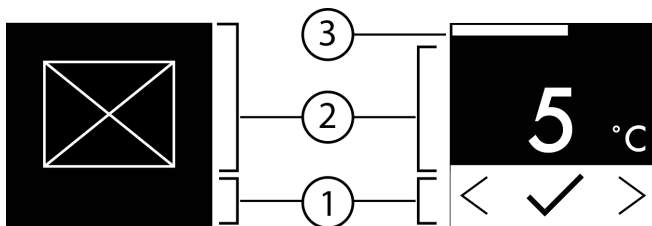

Fig. 6
- ▷ Status: On Fig. 6 (1) appears briefly in the submenu ().